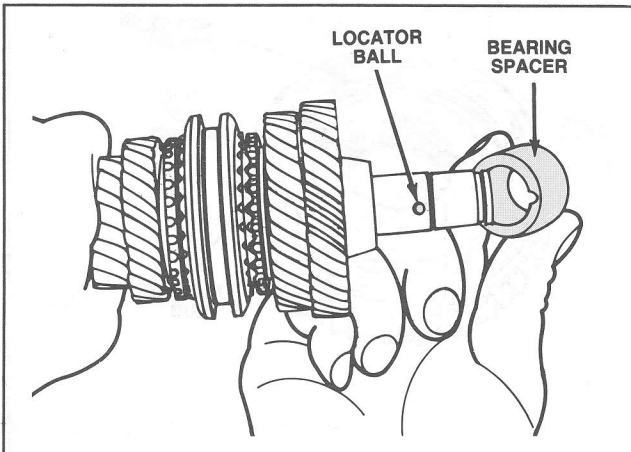

Figure 90 Locator Ball/Spacer Installation
5. Install the locator ball and spacer. (Figure 90).